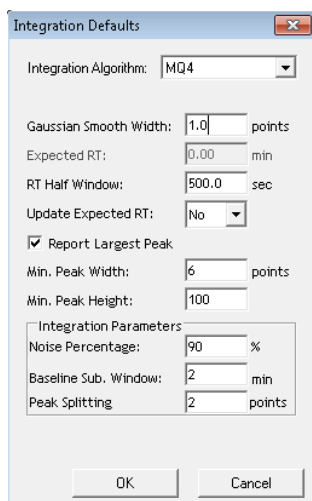

Figure B-4. Integration Defaults for Data Processing the Targeted Lipid Profiling Data.
4. Click Edit then Project Integration Defaults. Set the integration defaults as shown in **Figure B-4**.